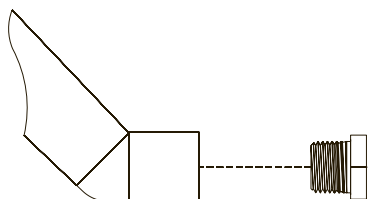

Figure 18
3. Remove LP burner orifice marked 1.25mm from each orifice fitting. See Figure 18.